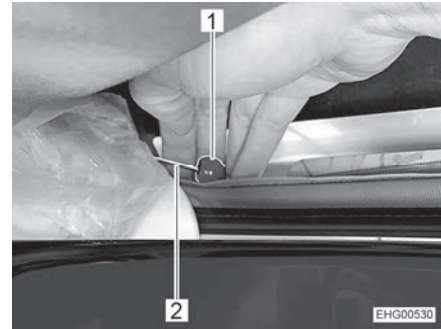

Fig. 48 Emergency release
- Pull the red button (Fig. 48,1) of the cable control (Fig. 48,2) on both sides.